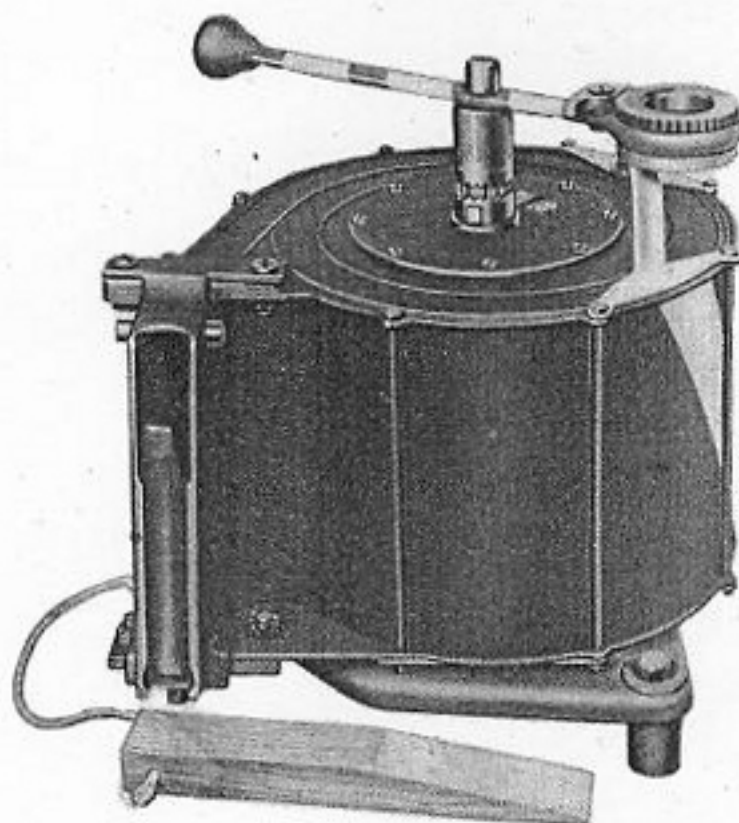

Figure 53. Magazine Lever on Main Shaft. (Note Magazine Hold-Down Wedge.)
magazine loading tool (299712-7), and the magazine loader assembly (367524) used with the Magazine Mk 4 Mod 0 are all usable with the Magazine Mk 5 Mod 0. The magazine lever assembly (299717) used with the Magazine Mk 4 Mod 0 will not work on the Magazine Mk 5 Mod 0, so a universal magazine lever assembly (367770-1) is furnished with all twin guns. This lever will serve to load, unload, tension, or untension either type of magazine. It is marked on one side with gray stripes similar to those on the magazine. When loading Magazines Mk 4 Mod 0, the lever should be placed on the magazine with its painted side down; but when loading Magazines Mk 5 Mod 0 the painted side should be up, as shown in Figs. 53 and 57.
4. **Magazine Lever.** Place a magazine lever (367770-1) on the end of the main shaft as shown in Fig. 53. The lever in this position is attached to the feeder axis, and turning the lever moves the cartridge feeder in the spiral guides.
Caution. Great care should be taken not to push the cartridges and feeder a further distance than is necessary for the insertion of two cartridges. If the cartridges with the cartridge feeder are pushed in too far, they may become upset, and jam. A jammed magazine can be caused by pushing the feeder back too far by hand, or by careless use of the loading lever on the feed axis, as shown in Fig. 53. If this happens, it is necessary to strip the magazine to clear the jam.
It is sometimes impossible to push by hand a number of cartridges back into the magazine in order to make room for more, particularly when the magazine is almost filled. When this condition occurs, use the loading lever as shown in Fig. 53. Rotate the loading lever clockwise very slightly for a distance necessary for the insertion of one or never over two cartridges.
4. **Cartridge Feeder.** With the coupling sleeve disengaged as shown in Fig. 56, place the magazine lever on the feed axis as shown in Fig. 53, and revolve it clockwise, until the cartridge feeder is at the inner end of its travel.